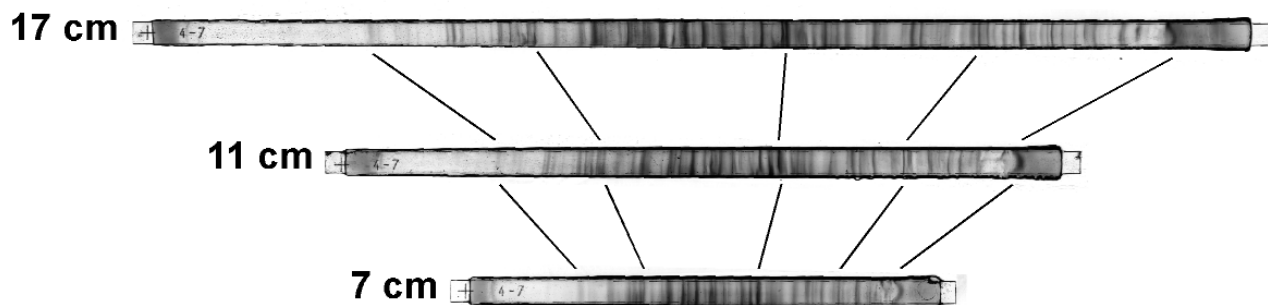

Fig. 9. Isoelectric focusing of *E. coli* protein sample in 7 cm, 11 cm, and 17 cm IPG strips followed by staining with IEF gel staining solution.
- 6 Figure 9 shows the expected pattern when IPG strips of 17 cm, 11 cm, and 7 cm are stained with IEF gel staining solution (catalog # 161-0434) and destained with Coomassie Brilliant Blue R-250 destaining solution (catalog # 161-0438).